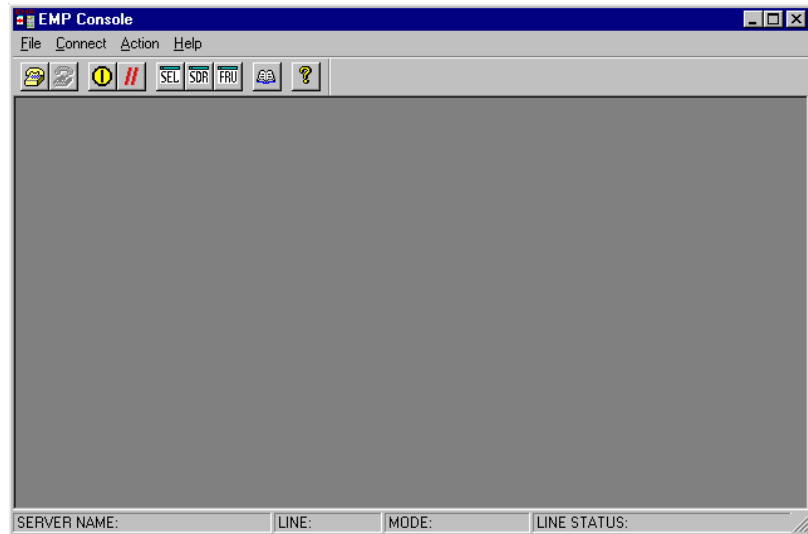

Figure 34: EMP Console in Command State
- **Command state**—the default COM2 state (Figure 34). In this state, the EMP console communicates with the server firmware, allowing the client to remotely reset or power the server up or down. The client can also view the server SEL, FRU information, or SDR table.